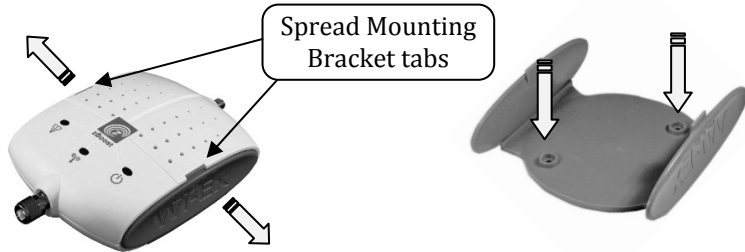

Figure 10: Wall Mounting the Base Unit
1. Remove the mounting bracket from the Base Unit by slightly spreading the tabs outward from the base unit as illustrated in figure 10.